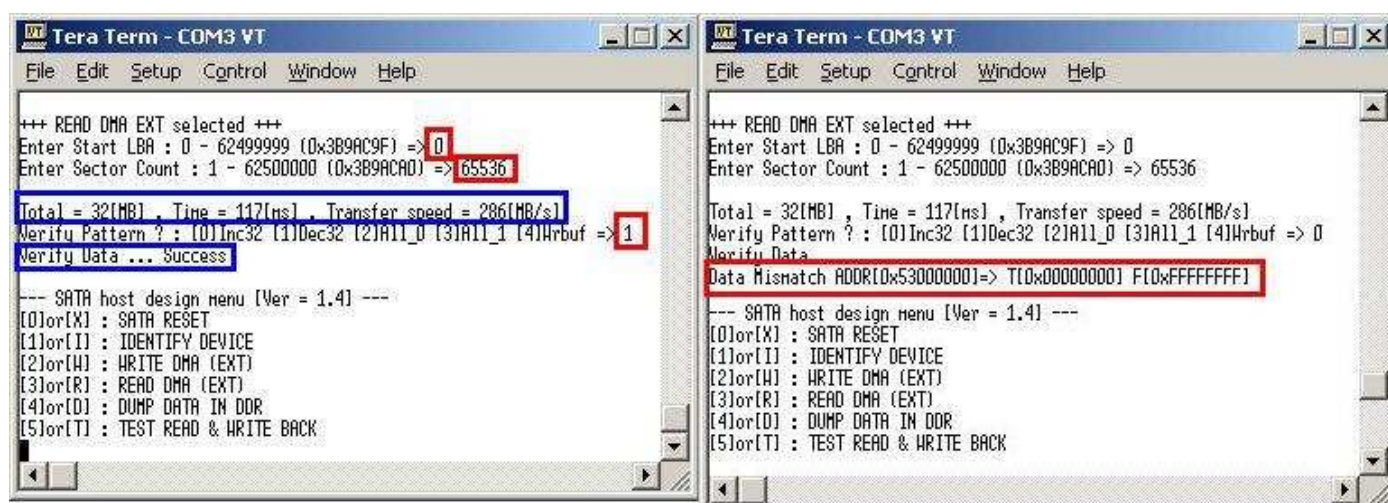

Figure 11 READ DMA (EXT) with verify process
- Verify Pattern: this menu will be displayed if Sector Count is less than 65537. Five verify pattern can be selected, like in WRITE DMA (EXT) menu. "Verify Data ... Success" will be displayed if all data in read buffer is equal to check pattern, but "Data Mismatch with failure value" will be displayed instead if data is not equal, as shown in Figure 11.